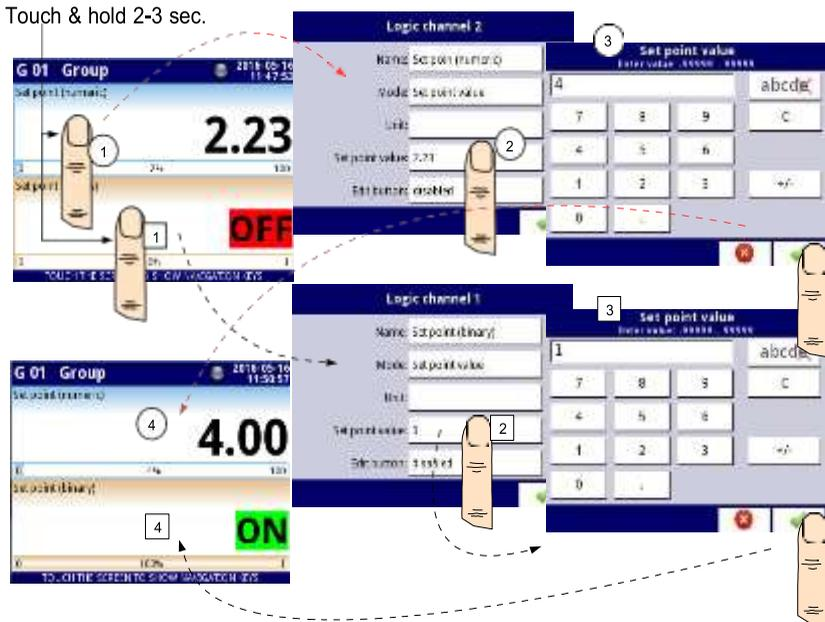

Fig. 7.55. Configuration of the value for Logical channel in Set point value for the disabled button
- **disabled** - the button is disabled on the display, in this case the data source of the logical channel will be the value set in the **Set point value** parameter,(see Fig. 7.55),